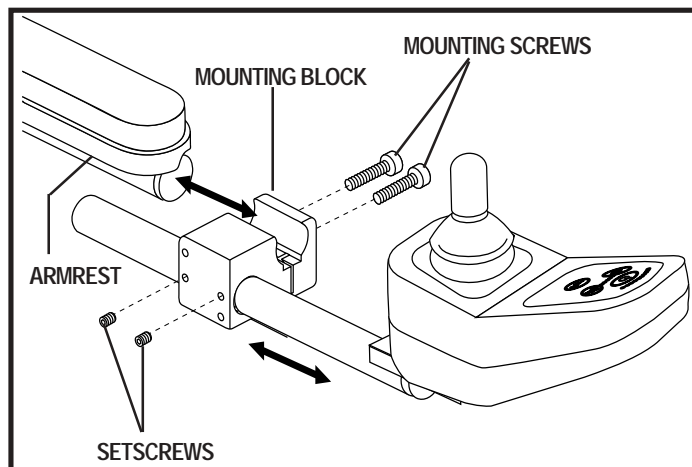

Figure 15. Controller Mounting Block
4. Loosen the mounting screws in the mounting block. See figure 15.